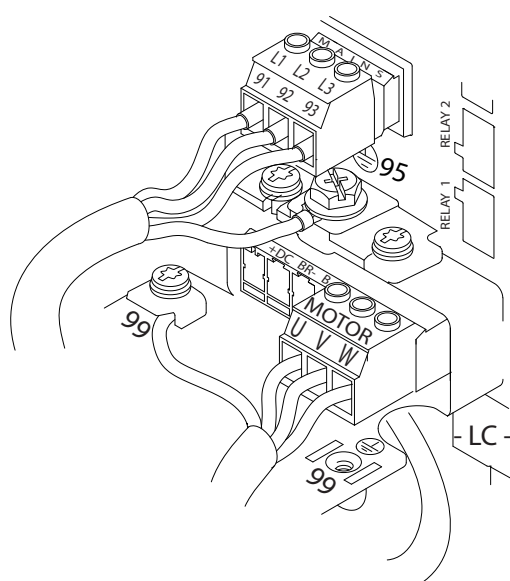

Figure 2.8 Example of Motor, Line Power and Ground Wiring
Figure 2.8 represents line power input, motor, and ground grounding for basic adjustable frequency drives. Actual configurations vary with unit types and optional equipment.
- Connect 3-phase AC input power wiring to terminals L1, L2, and L3 (see Figure 2.8).